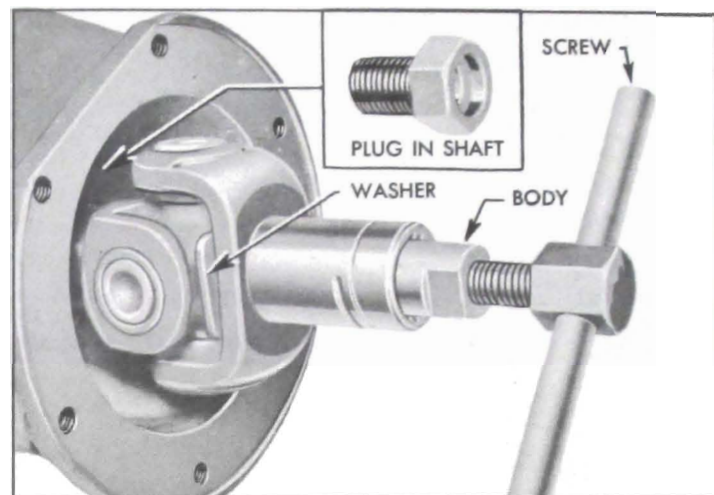

Figure 4-18—Removing Universal Joint with Puller J-682-A
4. Remove retaining bolt and washer, then pull universal joint from main shaft using Puller J-682-A. To use puller, install the pressure plug in transmission main shaft, insert puller in universal joint rear yoke, install the "C" washer in groove in puller body on front side of yoke, and then turn screw handle clockwise. See figure 4-18.